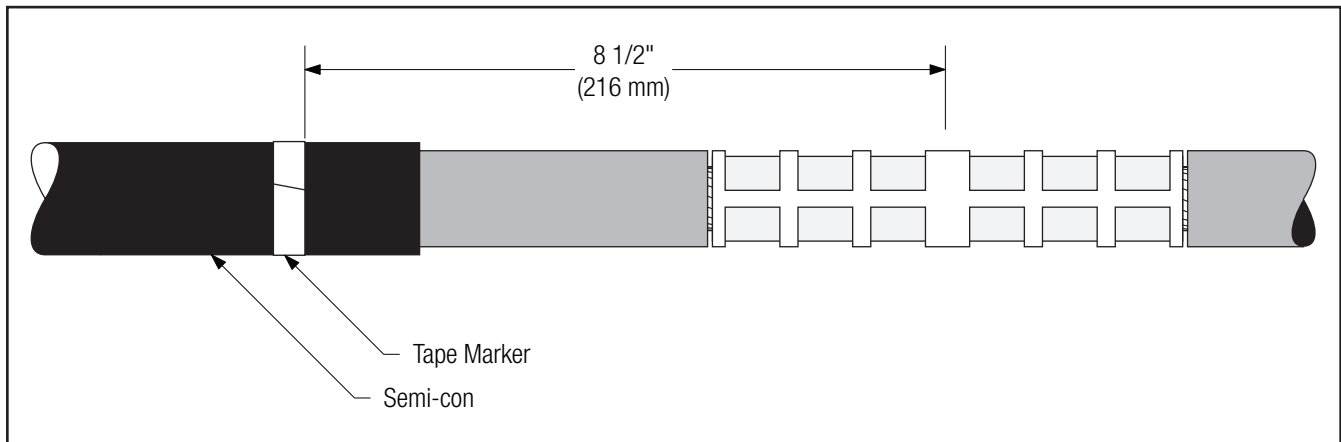

Figure 13
- 4.1 Apply a tape marker to semi-con insulation shield on cable which does not contain splice. Measure 8 1/2" (216 mm) from center of connector (*Figure 13*).